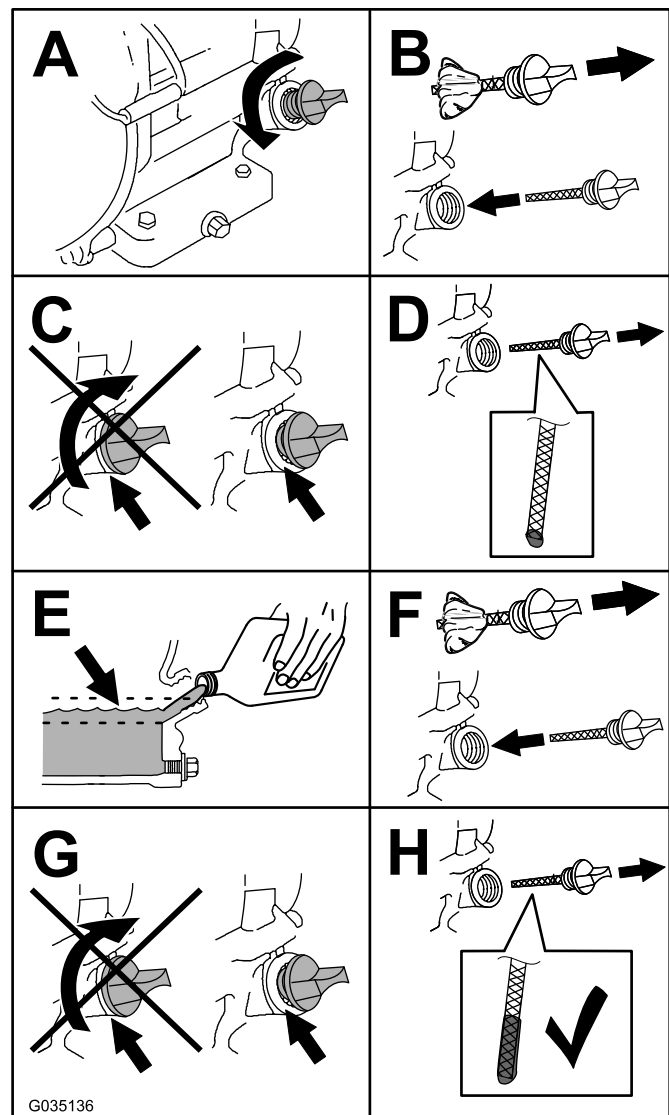

Figure 39
5. Check the oil level as shown in Figure 39.